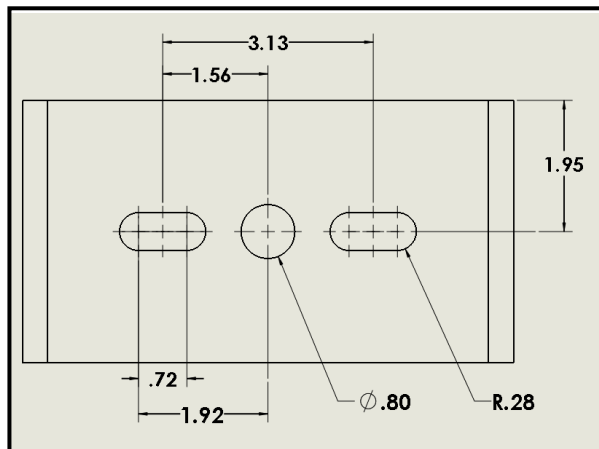

Fig. 1
Place Yoke Bracket in location desired and secured to surface with (2) 1/2-13" Studs or bolts (by others). See mounting hole pattern for bolt location. **See Fig. 1**